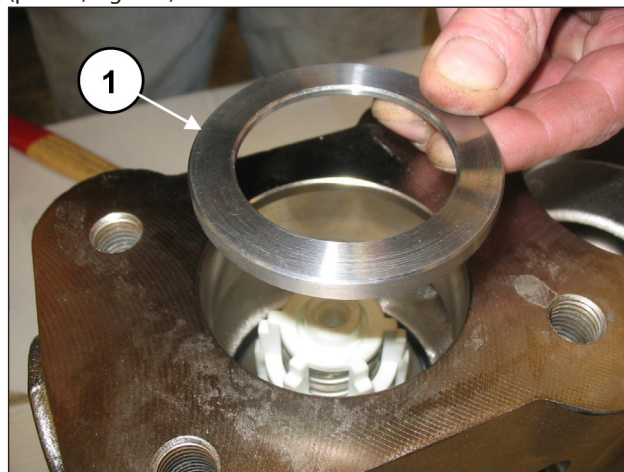
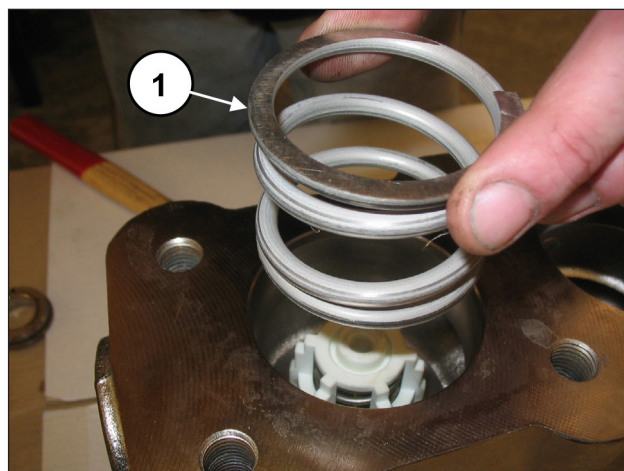

Fig. 123
Fig. 124
Insert the valve housing ring (pos. ①, Fig. 123), and its spring (pos. ①, Fig. 124).